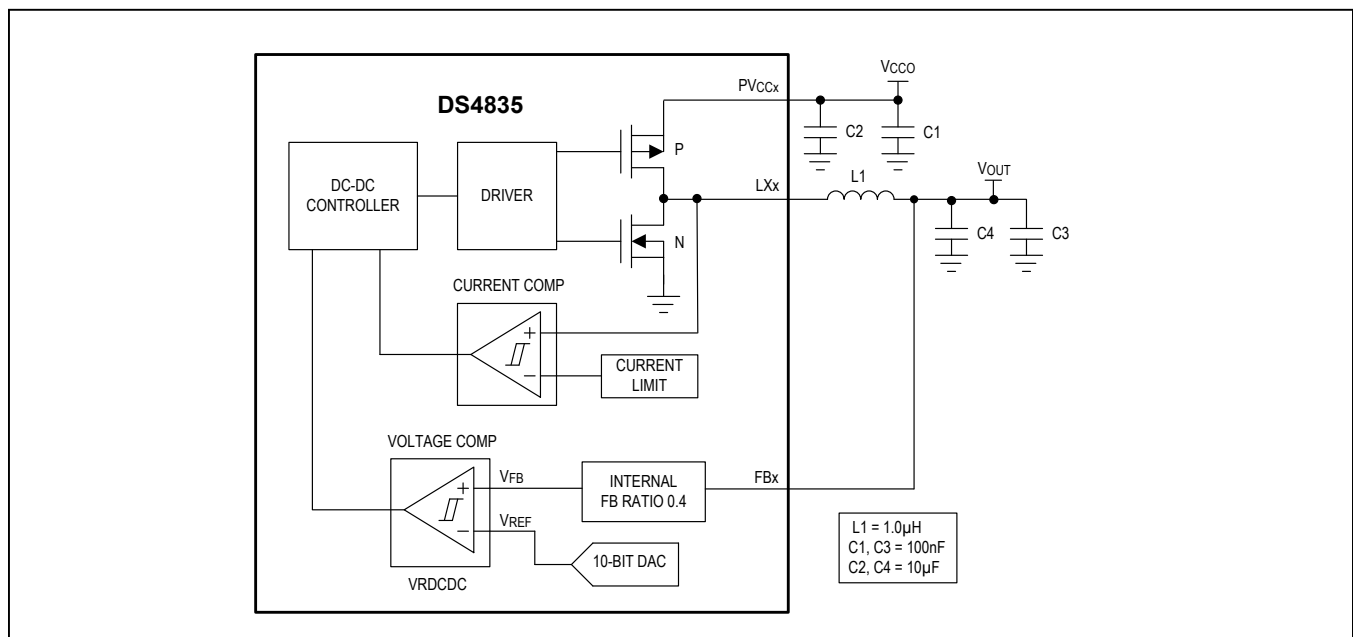

Figure 4. Buck DC-DC Converter Typical Application Circuit
Each buck DC-DC converter only requires an external inductor and decoupling capacitors to complete the converter circuit. The output voltage (V_{OUT}) should be directly connected to the feedback node (FB) to reduce the component count on the module and V_{OUT} is programmed using an SFR. The switching frequency at LX is up to 3MHz and the internal controller runs at a 128MHz clock rate. Refer to Figure 4.